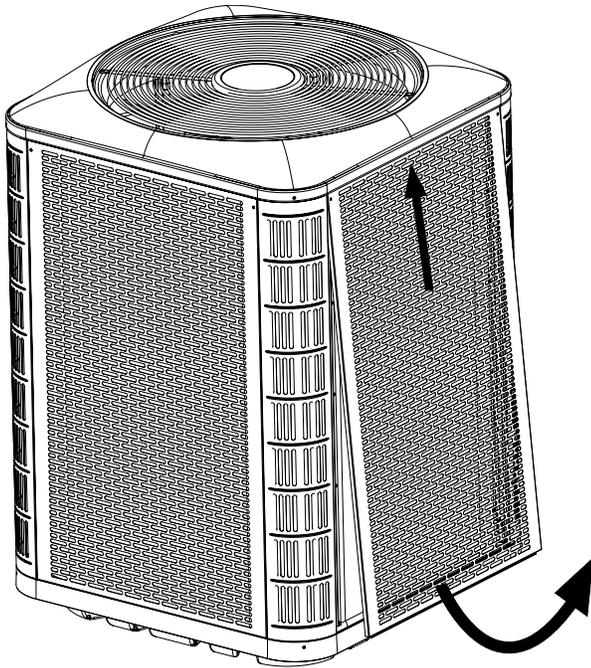
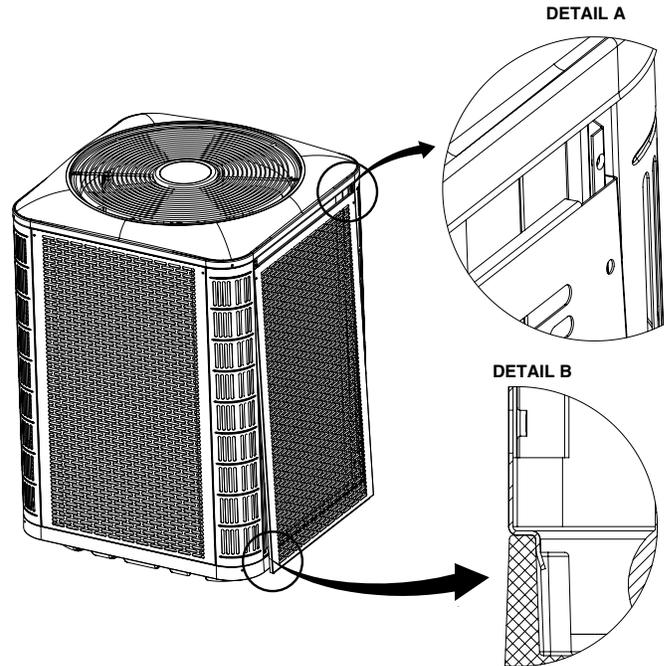

Figure 3. Panel Removal
Figure 4. Panel Installation
- To access the internal components of the unit, refer to Figure 3, page 7 for panel removal and Figure 4, page 7 for panel installation.
2. Slide the panel up towards the top pan in order to clear the bottom flange from the base pan. See Figure 3.
1. Insert the top corners of side panel flanges into the corner post channels as shown in Detail A in Figure 4.